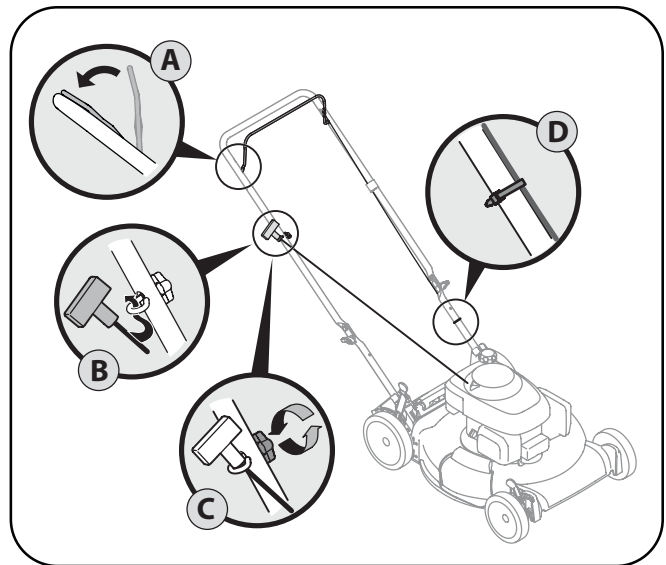

Figure 3-5
3. The rope guide is attached to the right side of the upper handle. Loosen the wing knob which secures the rope guide. See Fig. 3-5.
- b. Slowly pull starter rope handle from engine and slip starter rope into the rope guide. See Fig. 3-5.